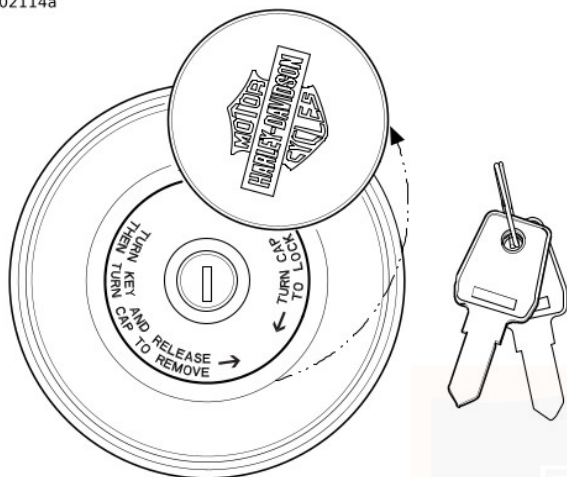

Figure 9. Locking Fuel Filler Cap
1. See Figure 9. Rotate the lock cover to access the key lock.